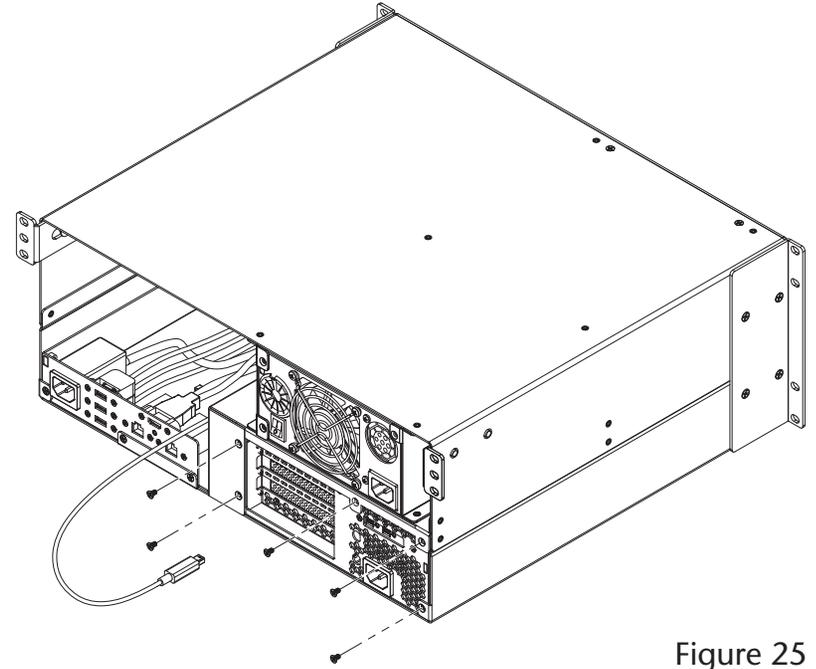

Figure 25
- Using the five screws you removed previously, secure the PCIe card expansion module to the rackmount enclosure (**Figure 25**).